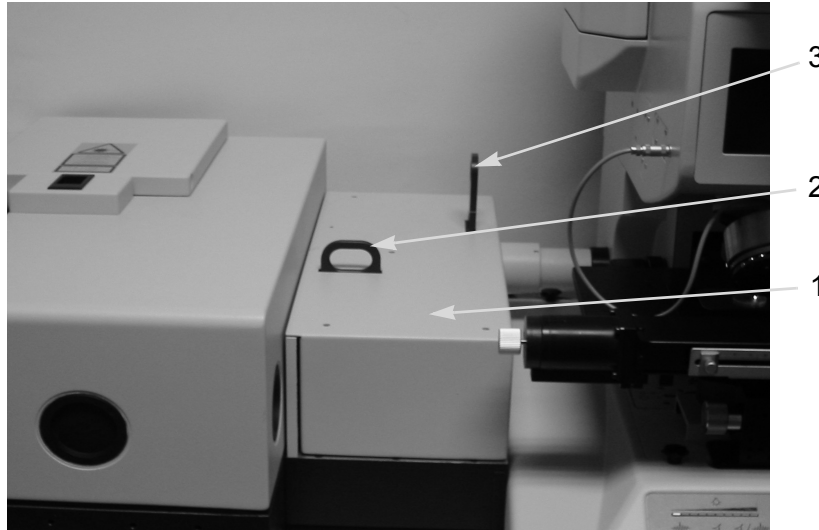

Figure 44: HYPERION 3000 connected to Spectrometer
Performing measurements with the FPA detector requires additional components. See figure 44.
**Note:** Insert the beam attenuator and the optical filter into the corresponding slots until they lock. Ensure that they are not inserted completely. Otherwise the beam attenuator or the optical filter is NOT in the optical path. In figure 44 the beam attenuator is not in the optical path while the optical filter is in the optical path.